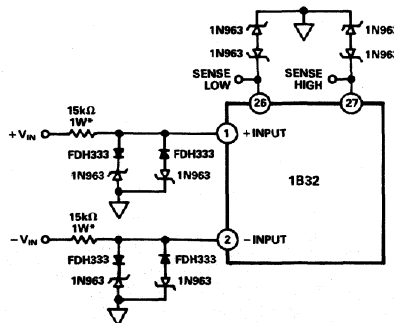

Figure 6. 115V Input Protection
**Input Protection:** The 1B32 differential inputs can be protected from accidental shorts to power line voltages (115V rms) by the circuit shown in Figure 6. The back-to-back diodes clamp the inputs to a maximum of ±12.5V and were selected for low leakage current. The 15kΩ resistors in series with the inputs will degrade the noise performance of the 1B32 to 4μV p-p (0.1Hz to 10Hz). When interfacing with six-wire load cells in harsh environments, input protection for the sense inputs is also recommended (Figure 6).